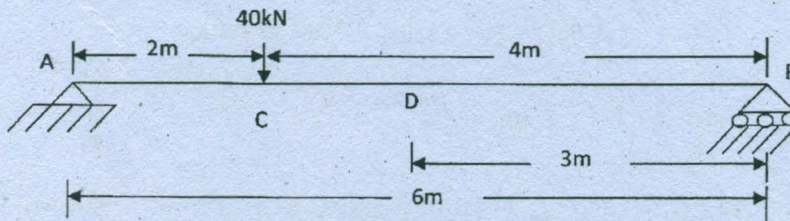

Fig. 2
- (b) Determine the deflection at center of the beam and slope at end A of the beam shown in Fig. 2. Take $E = 200 \times 10^6 \text{ kN/m}^2$ and $I = 13 \times 10^{-6} \text{ m}^4$. Use the principle of virtual work.